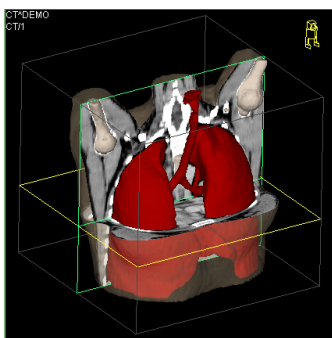

Figure 267 – 3D view
- To display ROIs in the 3D view (see Figure 267), push the **3D** button.